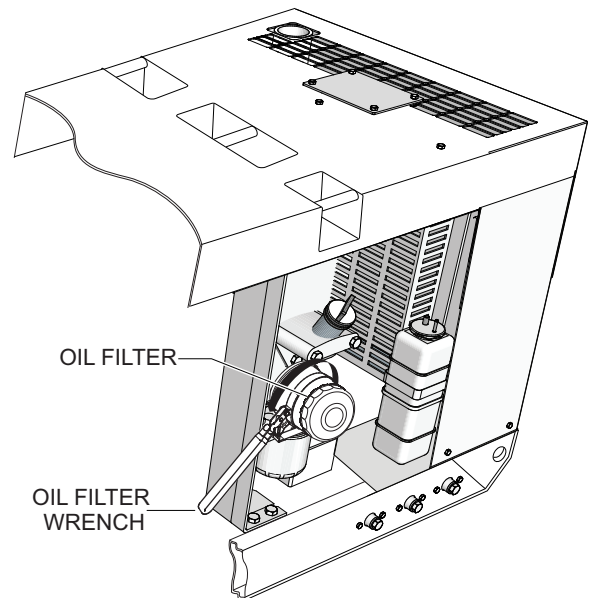

Figure 46. Engine Oil Filter Removal
1. Using an **oil filter wrench**, remove the engine **oil filter** (Figure 46).